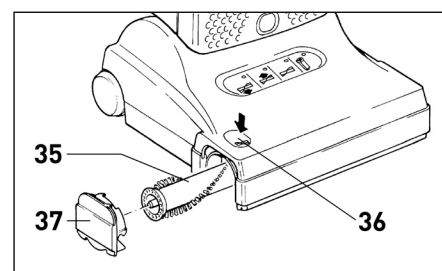

Figure 13
Changing the Brush Roller - Figure 13
The sealing strip (39) is located just behind the brush roller opening. The sealing strip seals the power head to hard floors to prevent kick-back of debris while vacuuming. To replace a worn sealing strip, push the release button, remove the side plate (36 and 37 in figure 13) and slide the old strip out. Insert the new strip into the slot and slide into place.